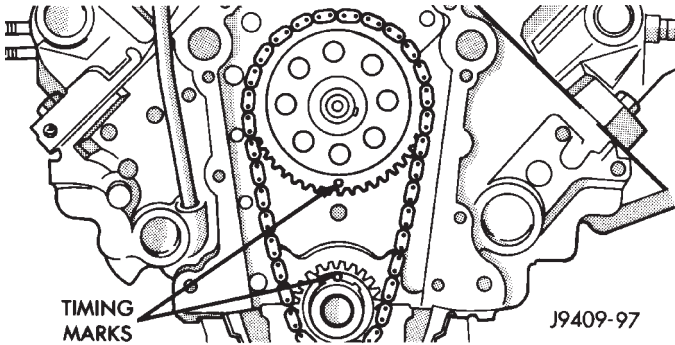

Fig. 35 Alignment of Timing Marks
(6) Place timing chain around both sprockets.
(7) Turn crankshaft and camshaft to line up with keyway location in crankshaft sprocket and in camshaft sprocket.
(8) Lift sprockets and chain (keep sprockets tight against the chain in position as described).
(9) Slide both sprockets evenly over their respective shafts and use a straightedge to check alignment of timing marks (Fig. 35).